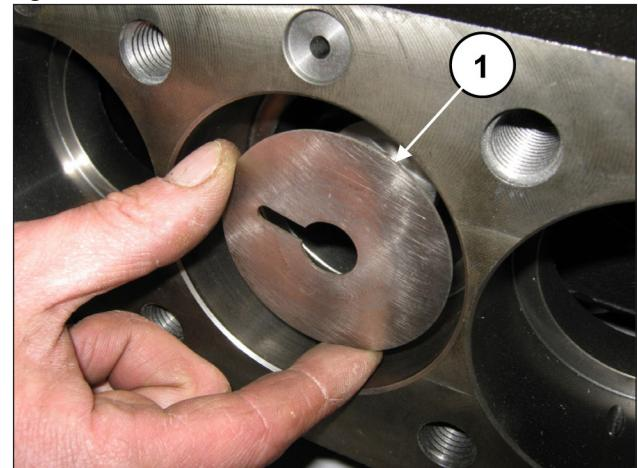

Fig. 174
Separate the seal support from the liner (pos. ①, Fig. 174) to access the pressure seals (pos. ①, Fig. 175).